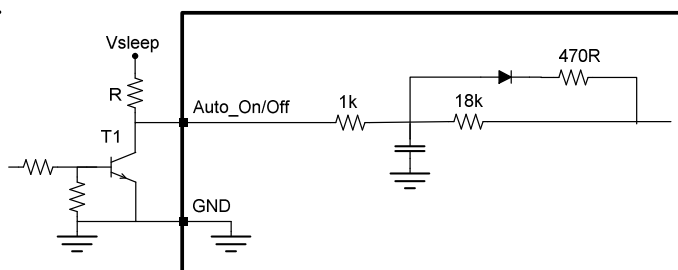

Figure 16: Controlled On/Off application
- On/Off by control signal: The Auto on/off input pin can also be used to control the standby/on mode via an external control signal. The recommended external circuit for this is illustrated in figure 16. The board will turn on when the external transistor turns on.